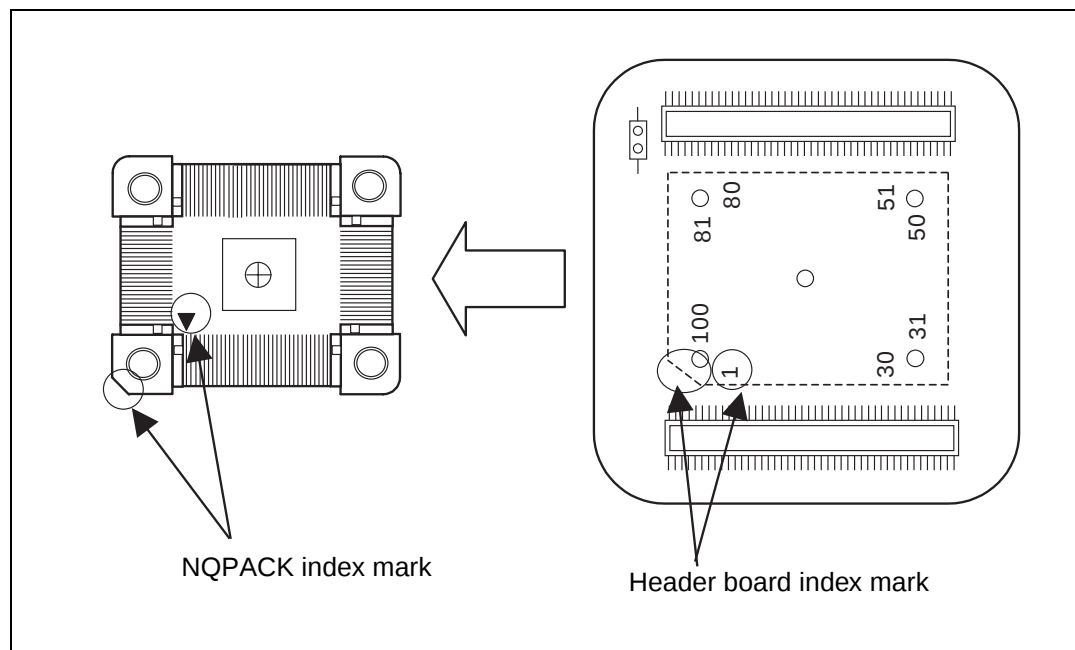

Figure 4 Index Position
1. To connect the header board to the user system, match pin 1 indicated by the index mark (▲) on the NQPACK mounted on the user system with pin1 indicated by the index mark (angle cut linearly at one place only in silk screen) on the header board and then insert it (See Figure 4) .